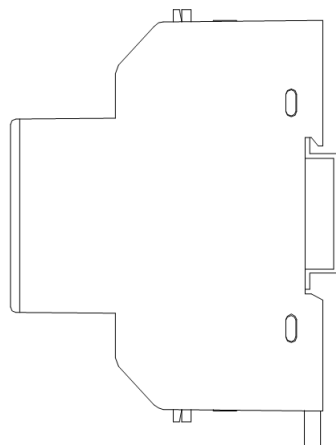
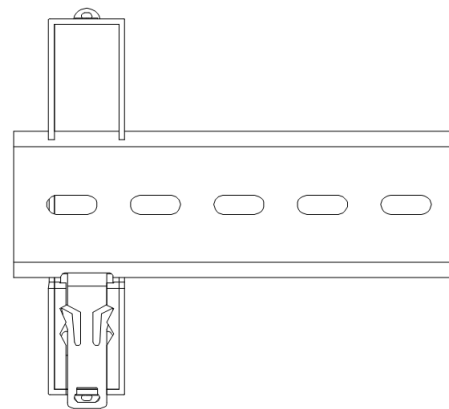

Figure 2: Put the meter into the DIN rail.
Figure 3: Install meter to the DIN rail.
- 3.- Put the meter into the DIN rail as per **Figure 2**, then push up the clip for a gear, install meter to the DIN rail, see **Figure 3**.